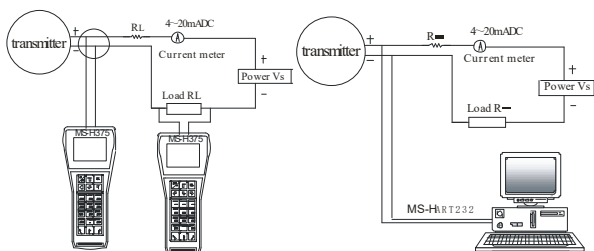

Fig. 9
- c) Wiring for HART transmitter connecting with hand-communicator. to see Figure 9: